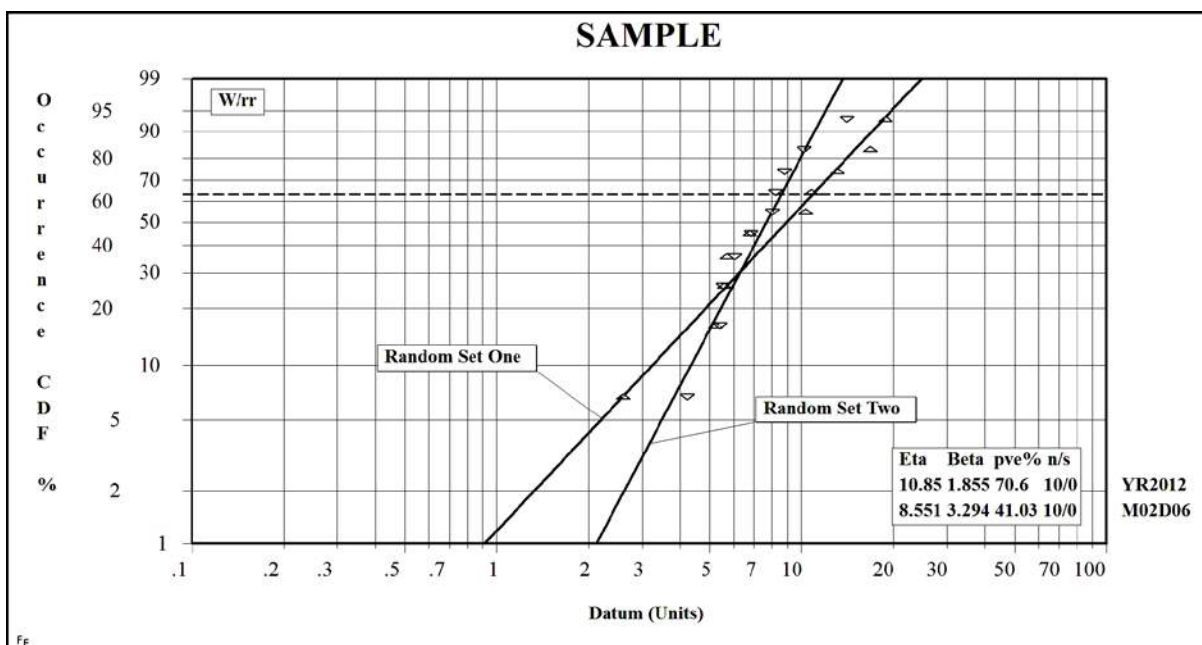

Figure 6: Quick Monte Carlo Plot
- D) With Home tab still active, repeat selecting <Enter> twice each time to get two or more different samples. You have a plot like Figure 6 showing sample scatter—later we’ll show the benefits of using this MC technique for serious work. SuperSMITH Weibull is configured for getting productive results quickly. In the Sample menu, you can change the model, change the quantity of data in a set, and change set quantity. With just a few selections, you’ve automatically filled-out the spreadsheet and made a plot. This is one way to get a quick set of data for using the software, trying different analysis features, and getting familiar with software options.